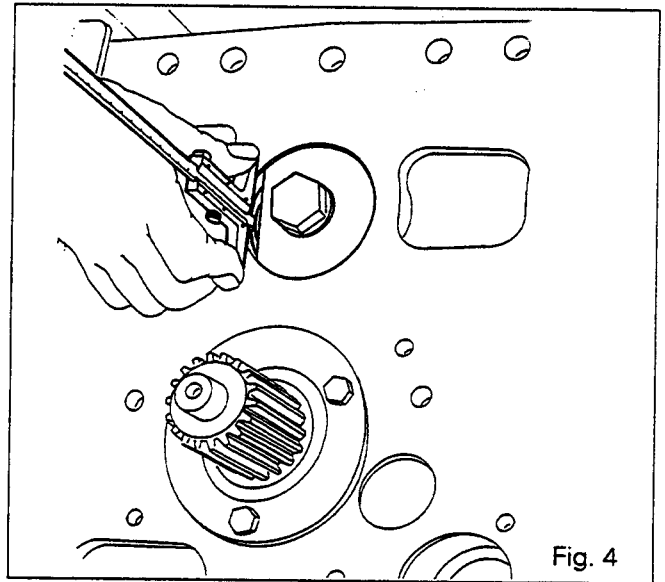

Fig. 4
23. Shim the layshaft (see Fig. 4) to obtain a play of: